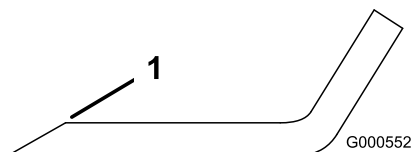

Figure 119
1. Use a file to sharpen the cutting edge at both ends of the blade (Figure 119).
Note: If the blade is not balanced, file some metal off the end of the sail area only (Figure 119).